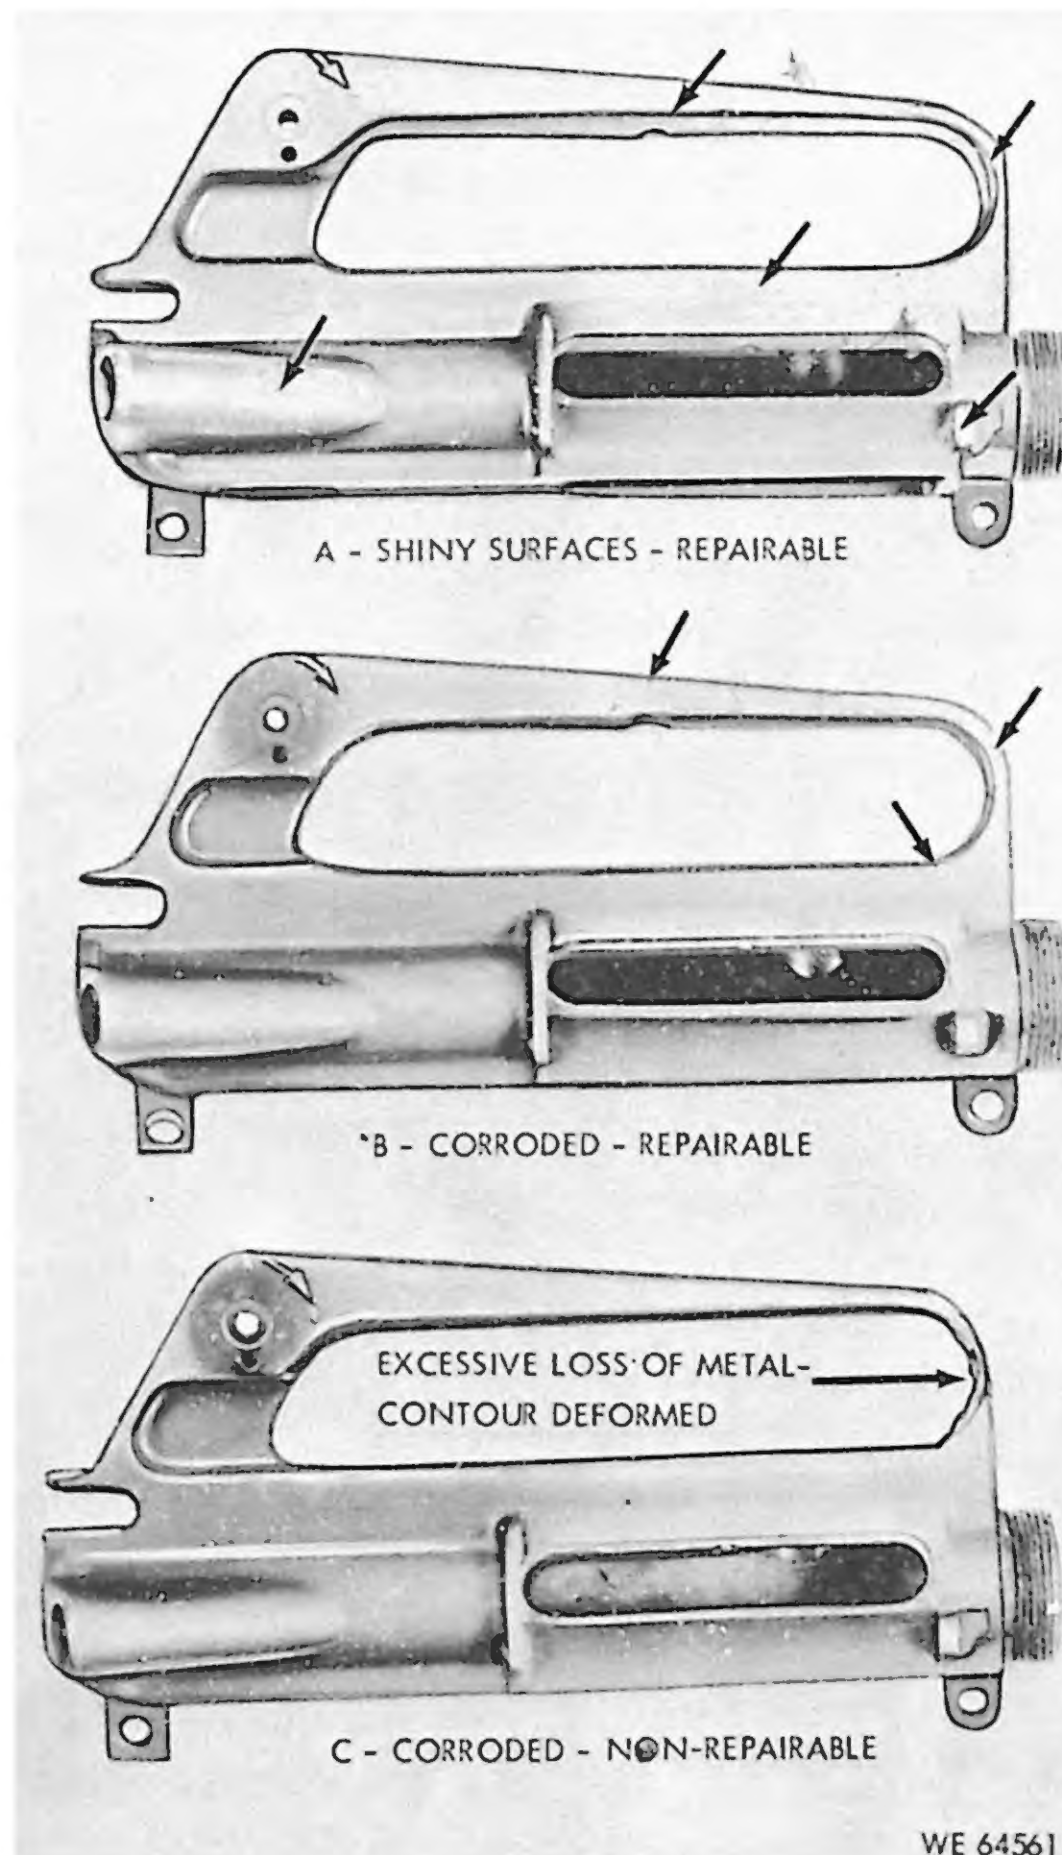

Figure 3-10. Repairable and non-repairable upper receivers— right side view.
Upper receiver group	<p>a. Clean the upper receiver group of dirt and powder fouling, then apply a generous coat of lubricating oil to all internal surfaces and a light coat to all external surfaces, prior to assembly.</p> <p>CAUTION</p> <p>Do not use a wire brush on aluminum surfaces.</p> <p>b. Prior to assembly, the ejection port, cover spring, pin and all component parts of the forward assist assembly and rear sight assembly will be thoroughly cleaned and lubricated.</p> <p>NOTE</p> <p>The ejection port cover latch will not be disassembled. If the latch is inoperative, the ejection port cover must be replaced.</p> <p>c. Upper receivers that are corroded as shown in figure 3-10 should be cleaned as follows:</p> <p>(1) Sand corroded area with crocus cloth and make certain all corrosion has been removed.</p> <p>(2) Wash area with dichloromethane (methylenechloride) to remove all dirt, grease and/or foreign material. Repair as indicated in table 3-1.</p>